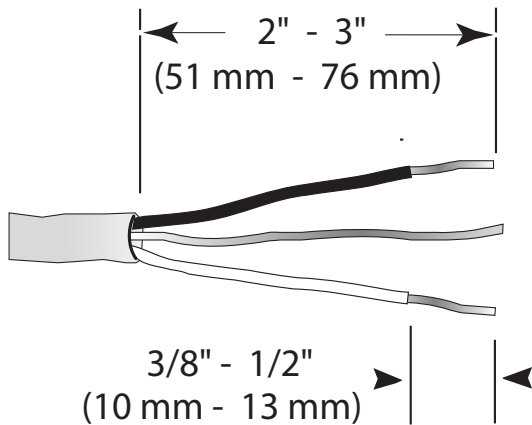

Figure 8
2. Remove 2" to 3" (51 - 76 mm) of the outer casing of the household or field supply wiring as shown in **Figure 8**. Remove $\frac{3}{8}$ " to $\frac{1}{2}$ " (10 - 13 mm) of the insulation from each wire as shown in **Figure 8**.